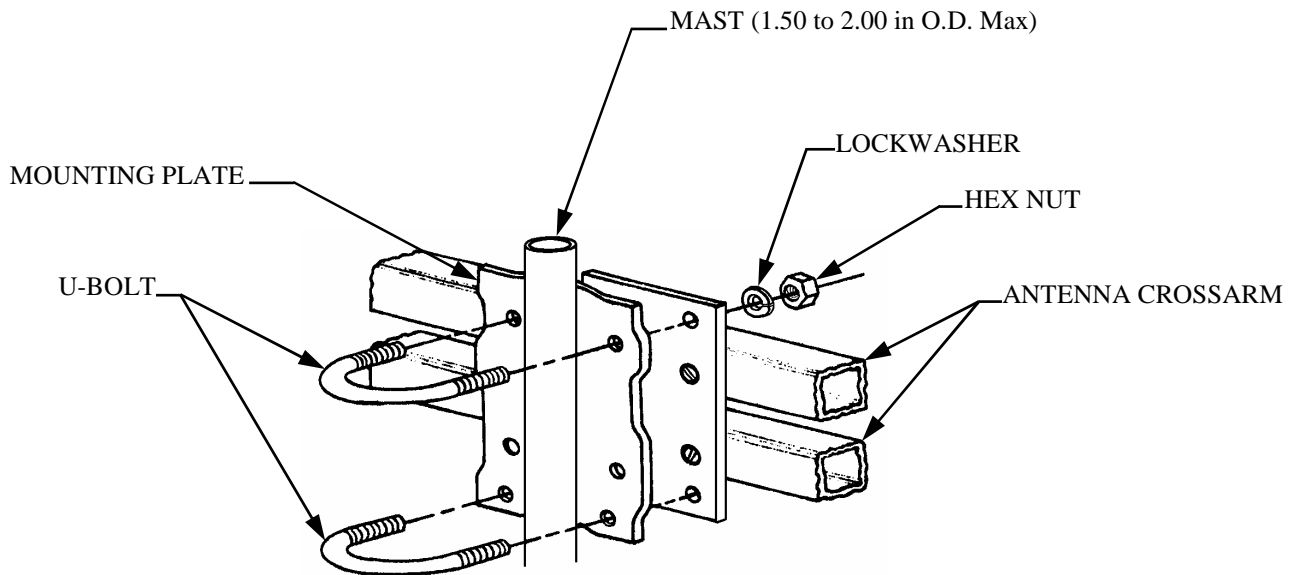

Figure 3
5. Loosely assemble the dual U-bolt mounting bracket onto the crossarms as shown in Figure 3.